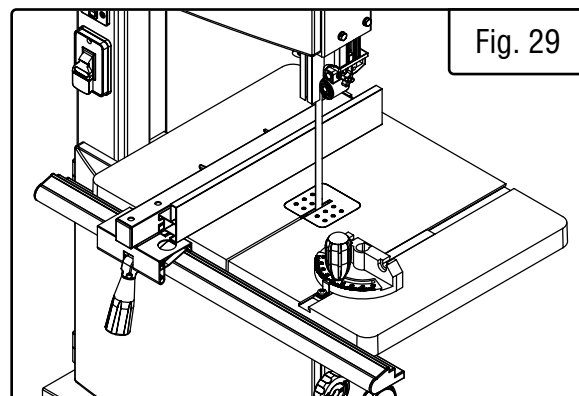

Fig. 29
1. Place the miter gauge into the slot on the table. (Fig. 29)